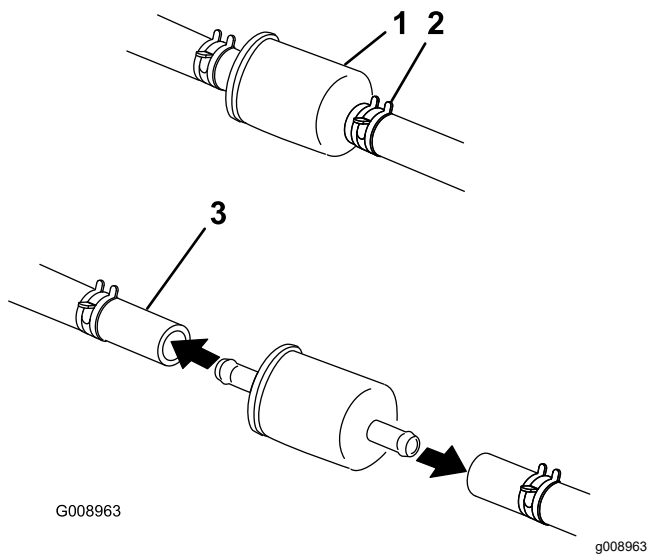

Figure 67
4. Close the fuel-shutoff valve under the seat (Figure 67).
5. Squeeze the ends of the hose clamps together and slide them away from the filter (Figure 67).
7. Install a new filter and move the hose clamps close to the filter (Figure 67).